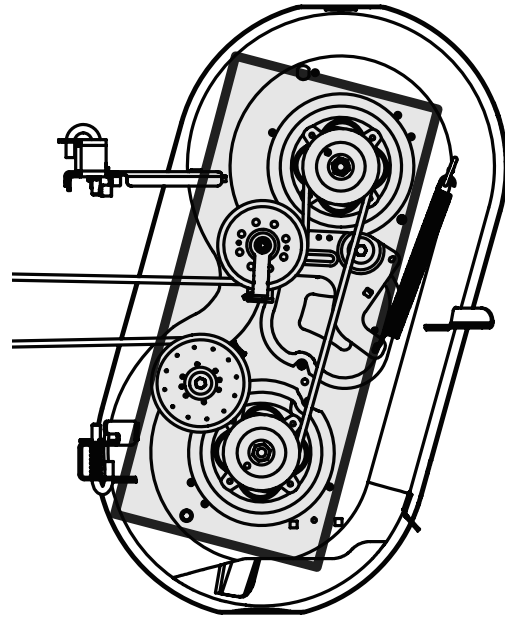

Figure 32
- Clean the top of the mower deck, under the spindle covers and belt area (Figure 32).